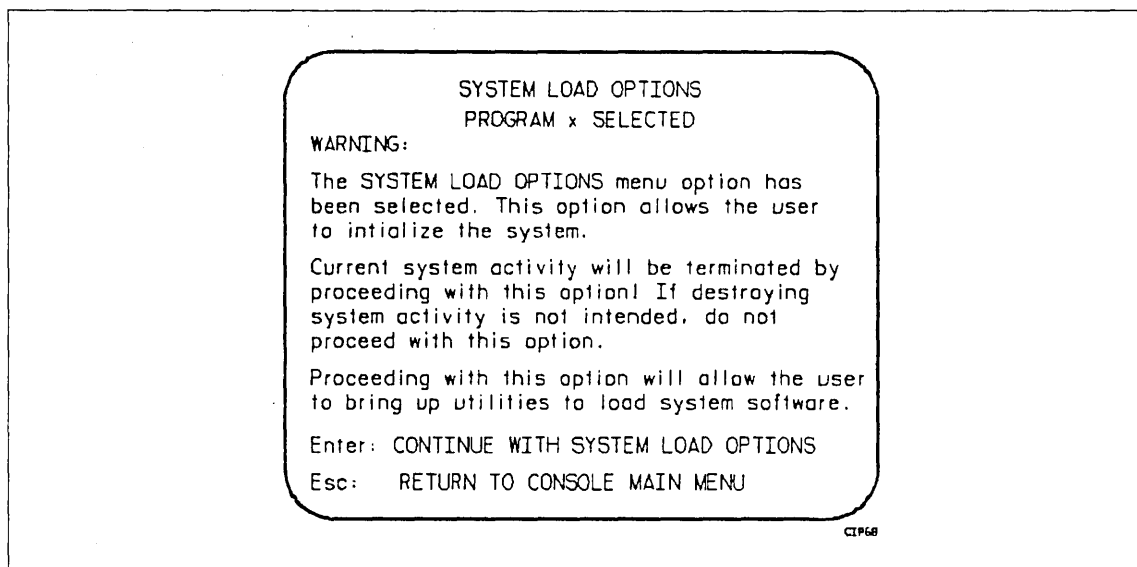

Figure 5-3. System Load Options Warning (CC598B Console)
- ___ 3. If the appropriate deadstart program is selected, enter S or press the Enter key; the SYSTEM LOAD OPTIONS warning shown in figure 5-3 will appear. From this display, press the Enter key if you wish to proceed to the INITIAL OPTIONS display. Skip to step 6.
- ___ 5. Enter S or press the Enter/Return key; the SYSTEM LOAD OPTIONS warning display (figure 5-3 or 5-6) will appear. From this display, press the Enter/Return key to proceed to the INITIAL OPTIONS display.